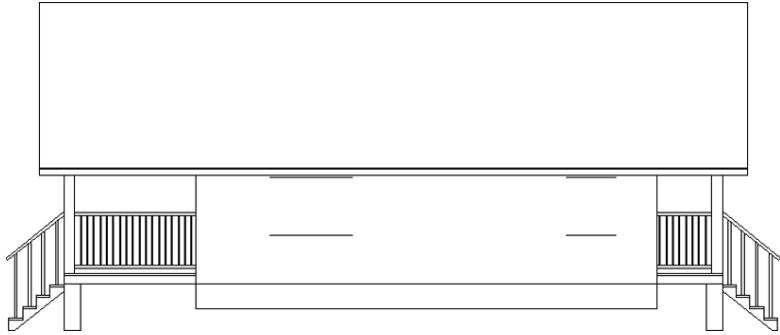

FIGURE 10.41: Elevation view after repairing the lower roofline by using the JOIN command
7. Repeat steps 5 and 6 for the two remaining rooflines. After you've joined each of the rooflines into three individual segments, your view should look like Figure 10.41.